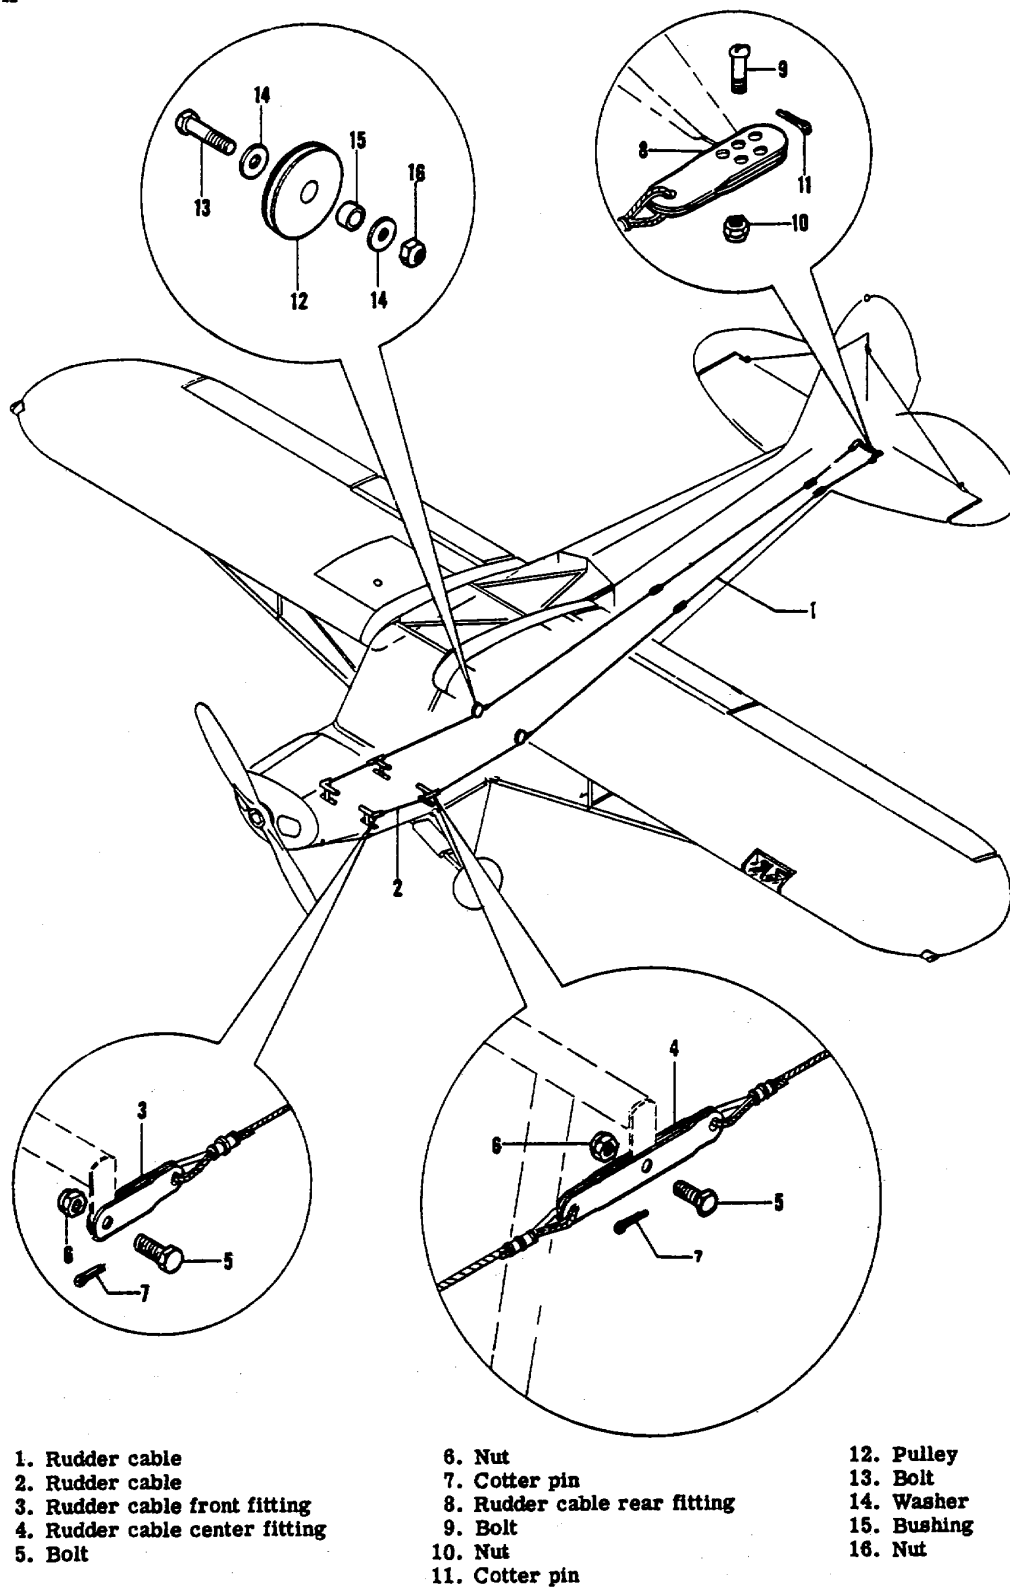

Figure 2-9. Rudder Control System
Broken or damaged pulley.	Replace pulley (12, figure 2-9).
Binding in cable fittings.	Replace cable fittings (3, 4, and 8, figure 2-9).
- b. Disconnect rudder cable (1, figure 2-9) from the